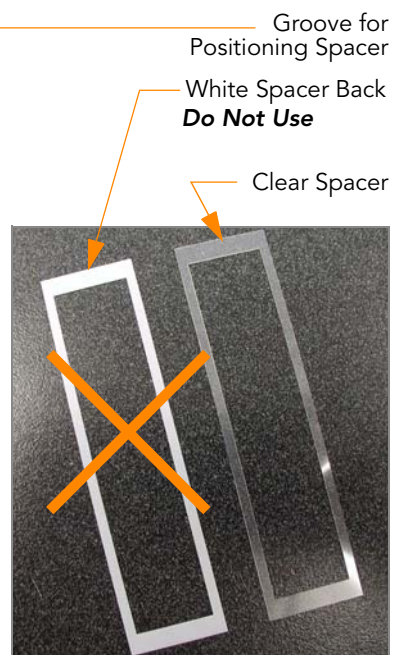

Figure 149 Placing Clear Plastic Spacer onto BeadChip
4. Place a clear spacer onto the top of each BeadChip to be processed (Figure 149). Use the Alignment Fixture grooves to guide the spacers into proper position.